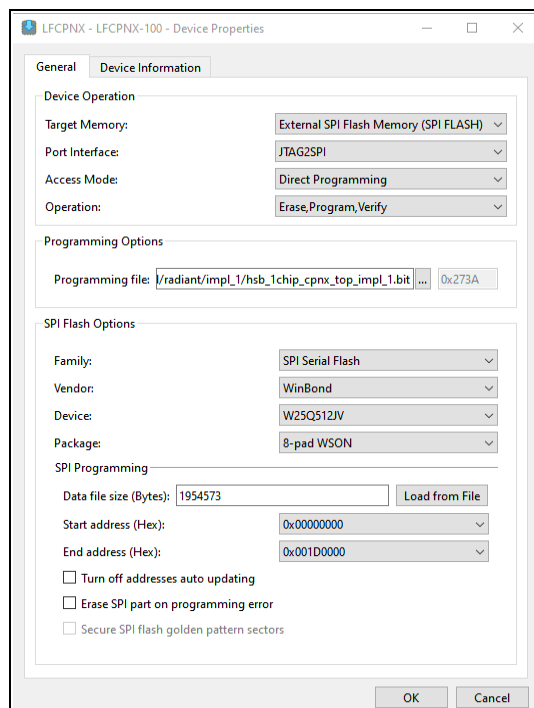

Figure 6.15. Load Bitstream File
- Select the appropriate SPI flash configuration to flash directly to external SPI flash. Refer to Figure 6.15 for the expected settings. Click the ... button under the file name bar and choose the bitstream file to program.